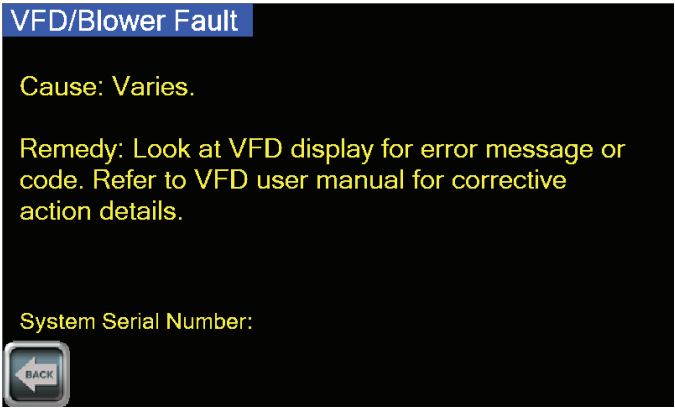

FIGURE 25. VFD Alarm Description
6. The system will provide additional details for alarms and warnings. Select the event to get to the specific event details. Figure 25 shows an example detail screen for the VFD/Blower Fault alarm.